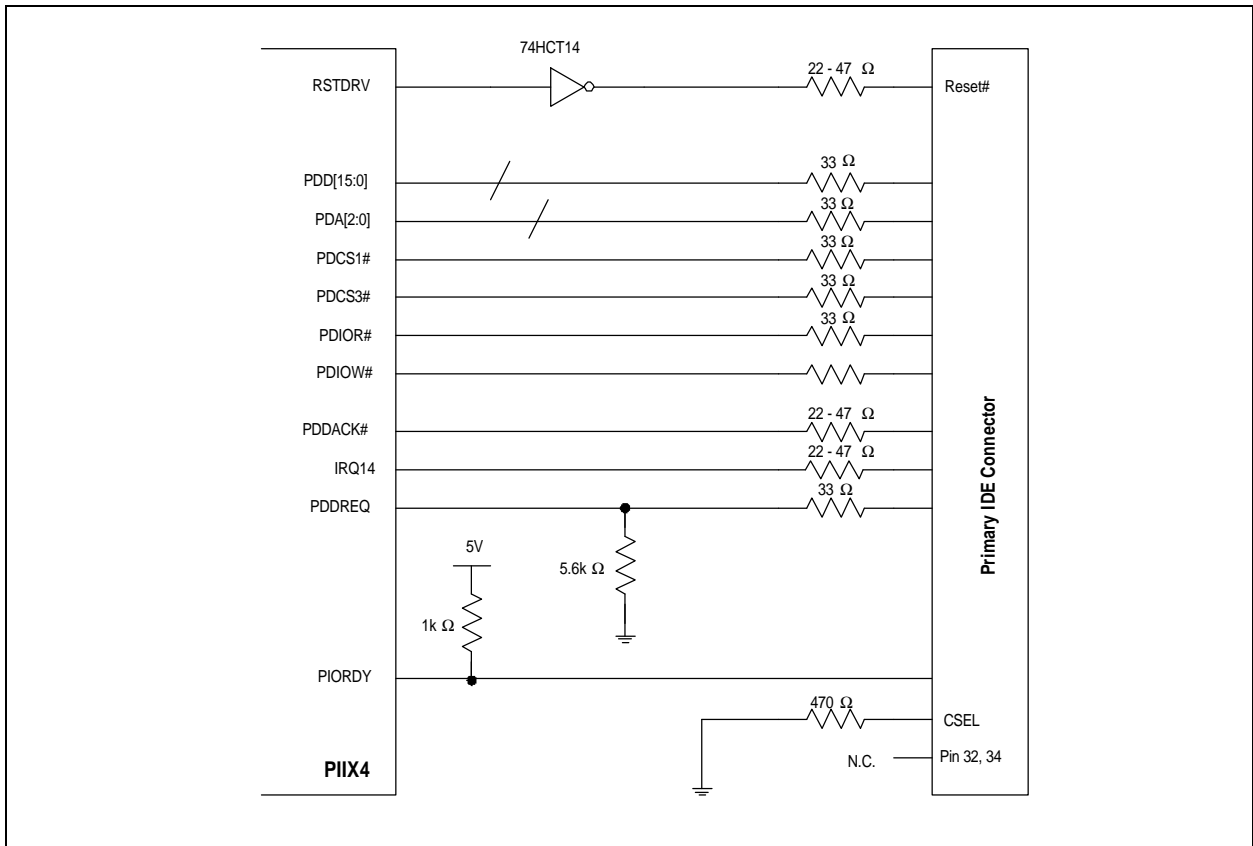

Figure 3-20. Series Resistor Placement for Primary IDE Connectors
- **Resistor Location**—When the distance between the PIIX4 and the ATA connectors exceeds 4 inches the series termination resistors should be placed within 1 inch of the PIIX4. Designs that place the PIIX4 within 4 inches of the ATA connectors can place the series resistors anywhere along the trace. Figure 3-20 shows a placement example.
The design consideration shown in Figure 3-20 illustrates the series resistor placement for trace lengths not exceeding 4 inches. Note that if the trace length between the PIIX4 and the IDE header exceeds 4 inches, the series resistors should be placed within 1 inch of the PIIX4. The series termination resistors are required in either design.